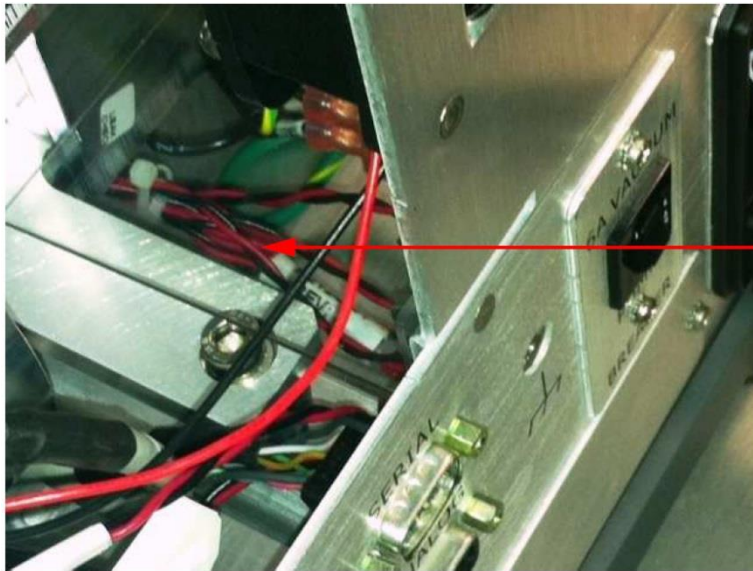

Figure 6: 24 V Power Cable
- 11) Unfurl the black/red wire (P1-RF) with the 24 V three-pin connector and the ground lug (Figure 6: 24 V Power Cable), which is tie rapped at the base of the leak detector, and: